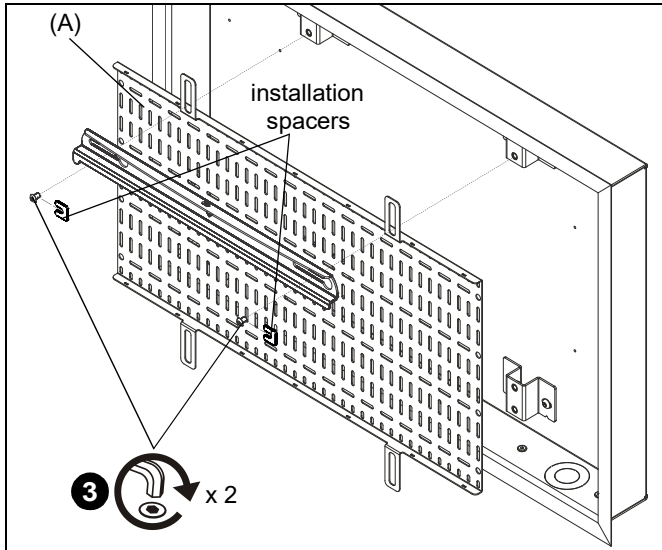

Figure 1
3. Attach accessory plate (A) to top two attachment brackets while also attaching top plate of Thinstall mount to two attachment brackets following TA500/501 installation instructions. (See Figure 1)